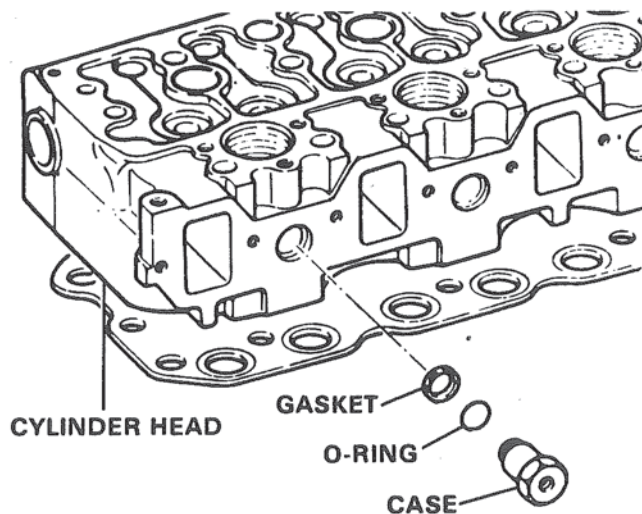

Figure 16. Removing Glow Plugs.
- B. Remove glow plugs, glow plug cases, o-rings and gaskets. Figure 16.